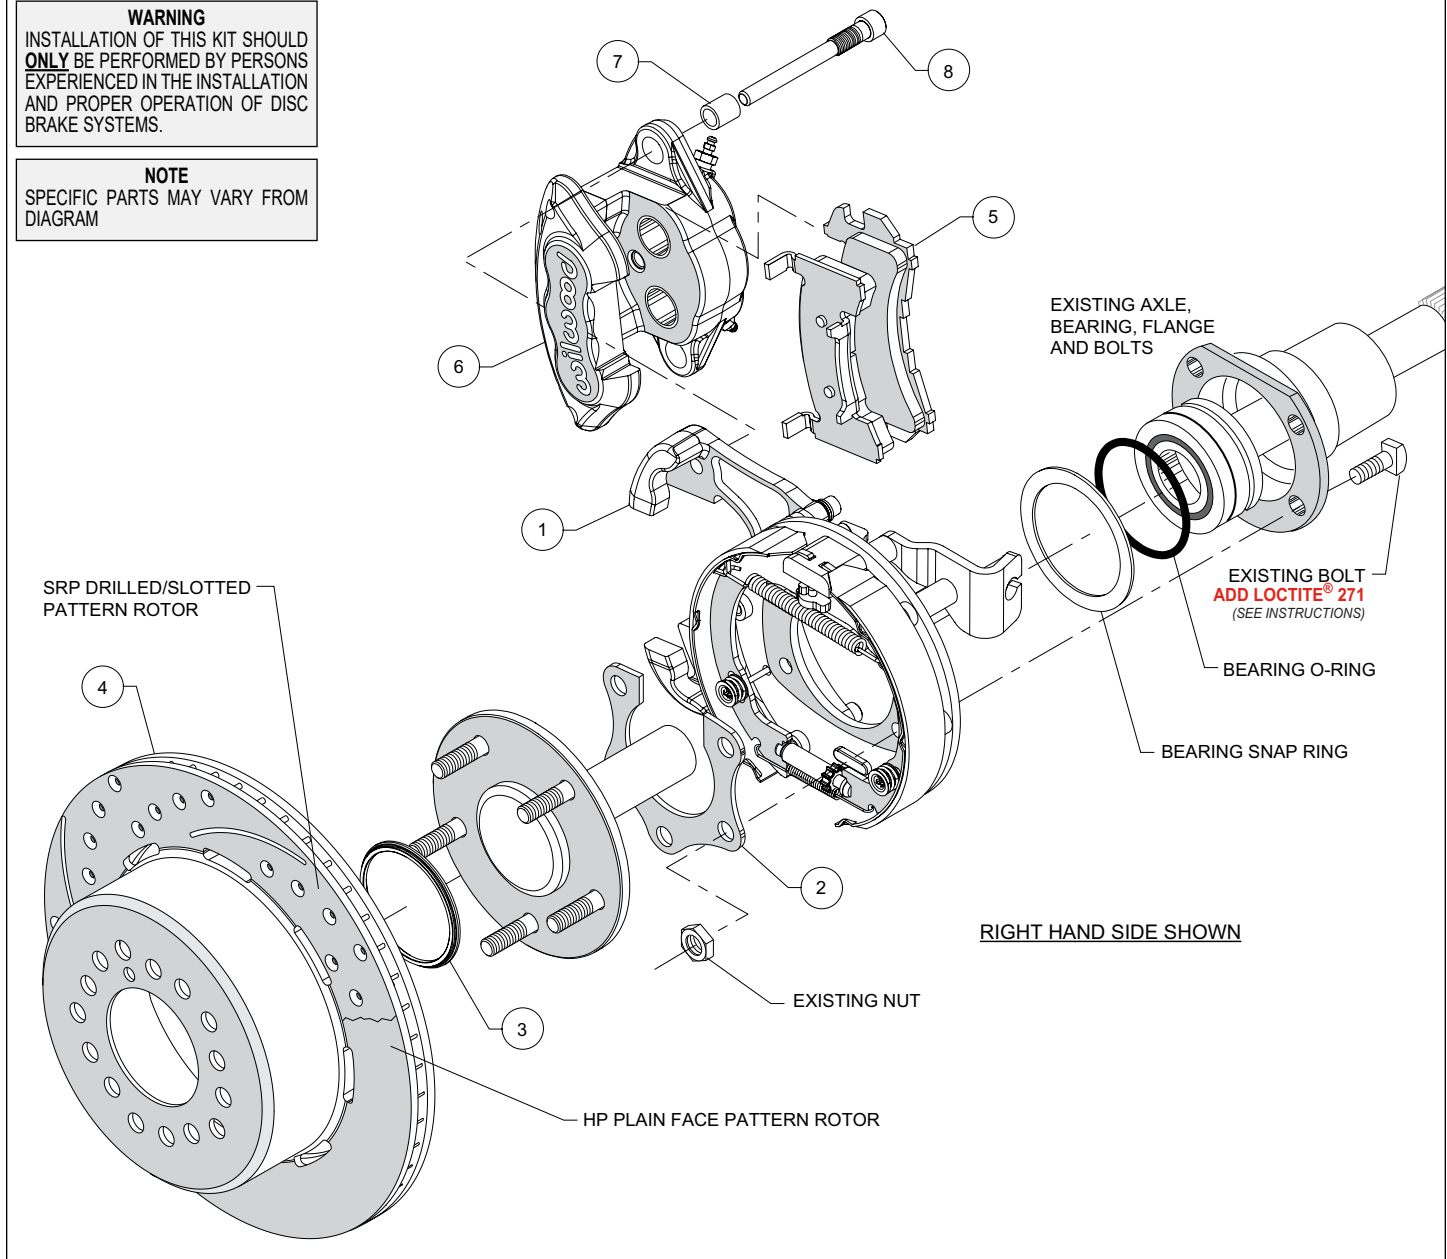

Figure 3. Typical Installation Configuration
NOTE: Numbers in parenthesis refer to the parts list and Figure 3 on the preceding pages.
- Temporarily remove the snap ring and o-ring from the bearing. Use care so as not to damage those components. Orient the bracket assembly (1) as shown in Figure 3 and Photo 1 and slide it onto the axle and past the bearing. Reinstall the snap ring and o-ring onto the bearing, again using care. Insert the axle and bracket into the axle housing. Ensure that the bracket assembly backing plate fits flush against the axle housing flange. **NOTE:** The bearing snap ring should be sandwiched between the axle housing flange and the new bracket assembly.
- Install the bearing retainer (2) with the opening pointing upward and the bearing relief step facing inward (toward the bearing), as shown in Figures 3 and 6, and Photo 2. Secure retainer and bracket assembly to the axle housing flange using the Original Equipment Manufacturer (OEM) bolts and nuts, Figure 3. Apply red *Loctite*® 271 to the OEM bolt threads and torque to OEM specifications.
- Slide the rotor registration adapter (3) onto the axle register on the axle flange with the smaller O.D. facing toward the rotor/hat (4), Photo 3. Align the correct hole pattern in the rotor/hat with the stud pattern on the axle flange and slide into place, Figure 3 and Photo 4. **NOTE:** The rotor/hat must fit flush against the axle flange or excessive rotor run out may result. Install three lug nuts (finger tight) to keep the rotor/hat assembly in place while continuing with the installation. **NOTE:** Some OEM and after market axles come with stud sizes larger than 0.50" diameter. Verify stud size and have a qualified machine shop drill the bolt circle of the hat/rotor to the correct stud size, if necessary.
- Install the disc brake pads (5) into the caliper (6) with the friction material facing the rotor, as shown in Figure 3 and Photo 5.
- Install sleeves (7) onto slide pin bolts (8). Apply white lithium grease (available from your local auto parts store) to the slide pins/sleeves, as shown in Photo 6. **Do not apply to threads.**
Mount the caliper (6) onto the mounting bracket (1) using slide pin bolts, as shown in Figure 3. Torque to 35 ft-lbs.